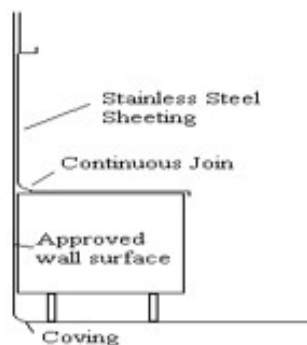

Figure 4b - Stainless Steel Splashback
- The wall behind cooking equipment shall be protected by stainless steel sheeting from the lower edge of the exhaust canopy to the floor or top of coving. In cases where a stainless-steel splashback forms an integral part of the cooking appliance surface it can be extended up to the lower edge of the canopy and in this case the wall below the cooking equipment does not require stainless steel sheeting provided the surface is impervious and heat resistant. (Figure 4b)